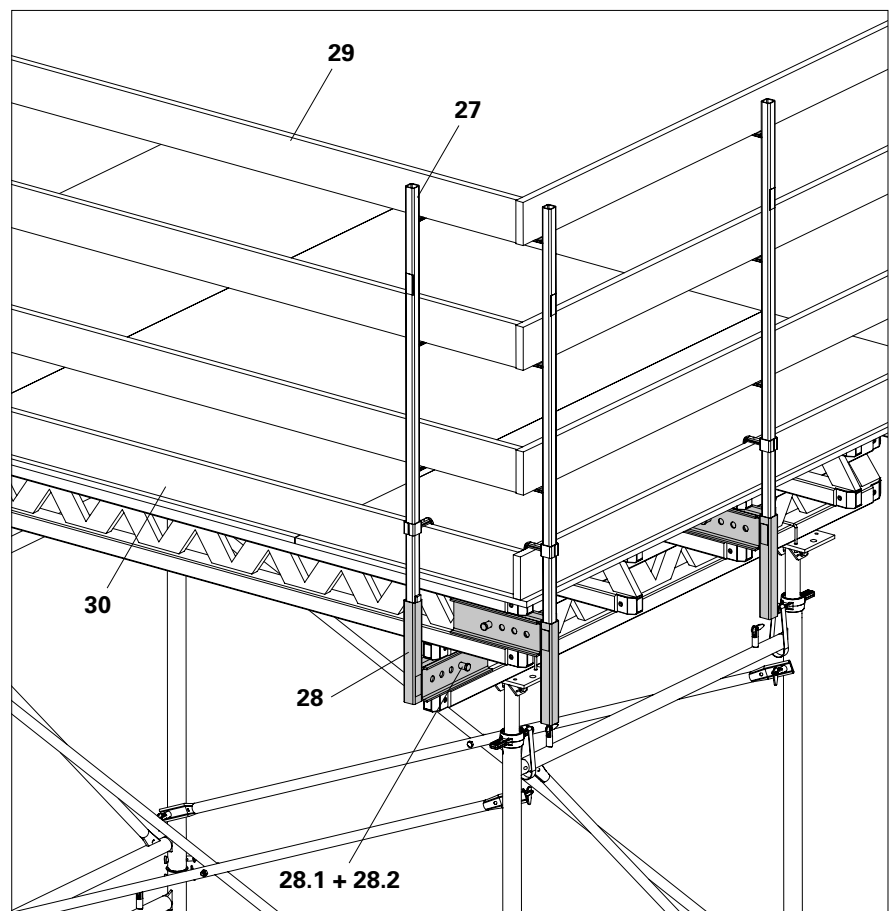

Fig. A8.01
4. Insert the Guardrail Post SGP (**27**) into the square tube. (Fig. A8.01 + A8.01a)